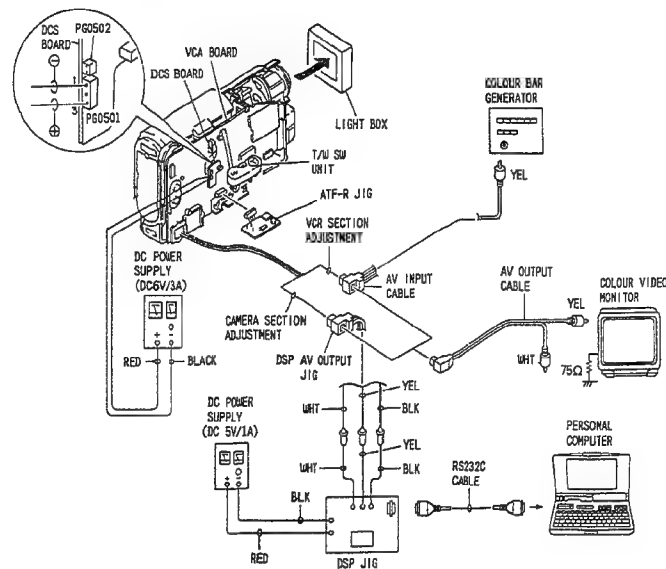

Fig. 1-1 Connection for adjustment
- 3) Connect this unit, a power supply and a colour video monitor as shown in Fig. 1-1.
Connect the camera/recorder, DSP jig, personal computer, power supply, etc. as shown in Fig. 1-1. Check that the camera/recorder is turned on.